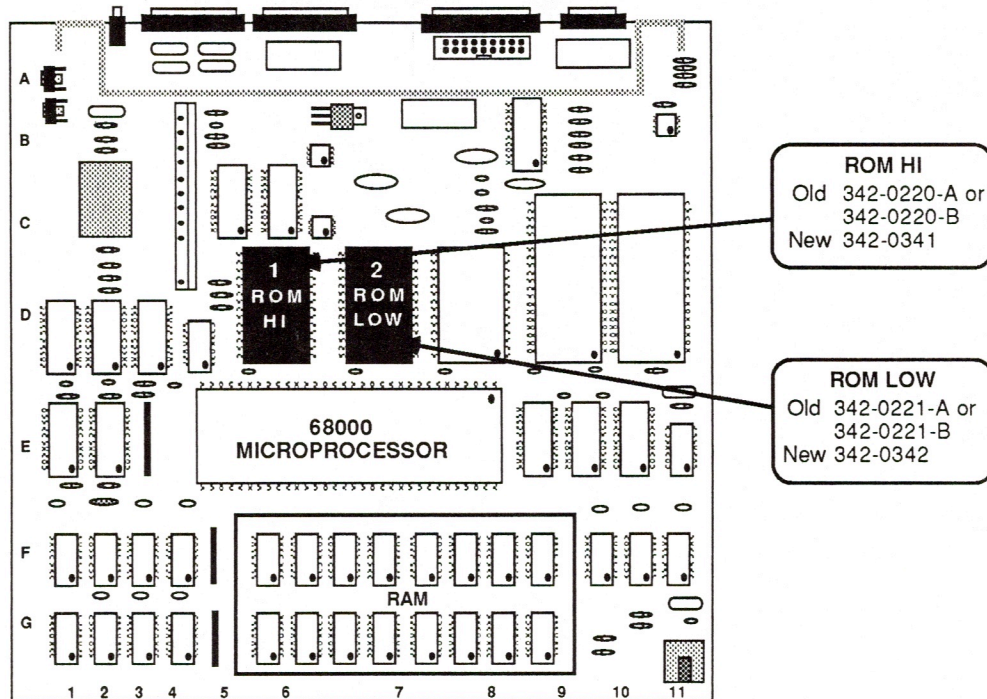

FIGURE 1
4. Remove the Macintosh logic board. Using an IC extractor, remove the old ROMs installed at locations D5 and D8. (Refer to Figure 1, Macintosh 128K/512K Logic Board.)
5. Install the two new ROMs in the appropriate locations: ROM HI (P/N 342-0341) at location D5, ROM LOW (P/N 342-0342) at location D8. (Refer to Figure 1, Macintosh 128K/512K Logic Board.) There is a notch at one end of each ROM. This notch should face the front of the machine on installation.